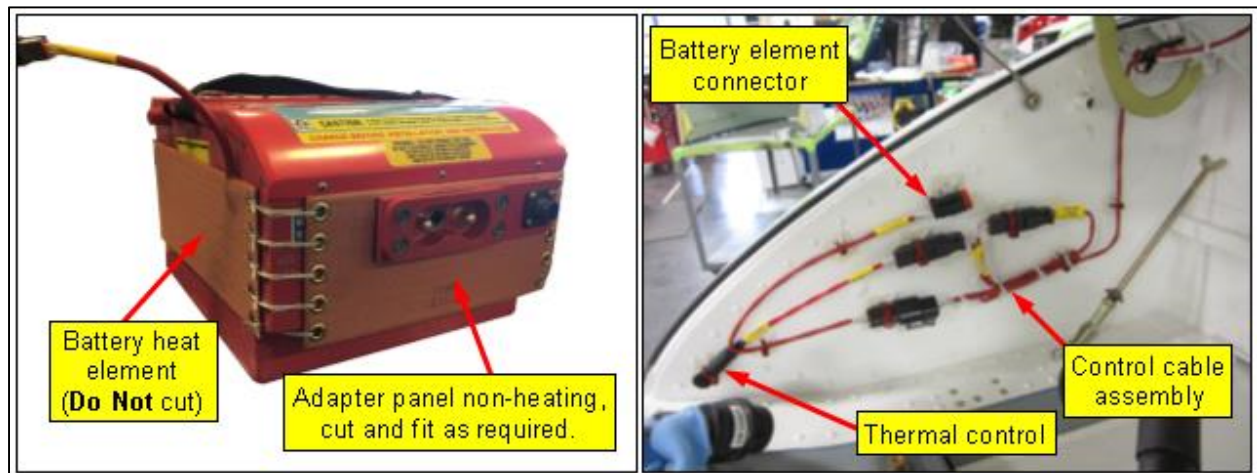

Figure 4.2. Battery heater:
7. Battery heater control cabling: Locate thermal control cable assembly and controller in battery compartment refer to Figures 4.2. and 4.16.